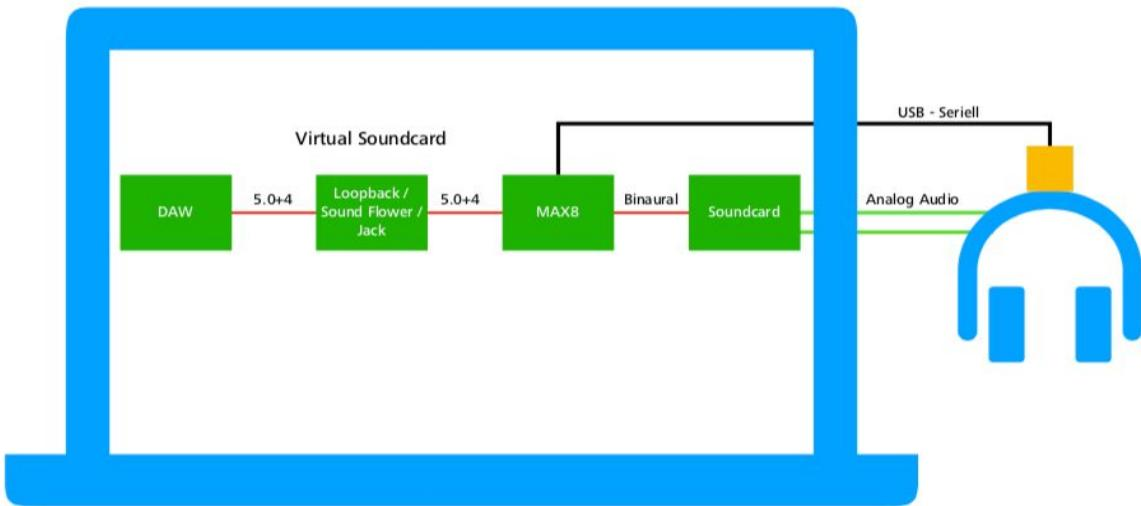

Figure 22: Illustration of the digital integration of MAX8
**Tip:** To make working with this MAX8 patch easier, it is recommended to maximize the window (*Figure 22*).